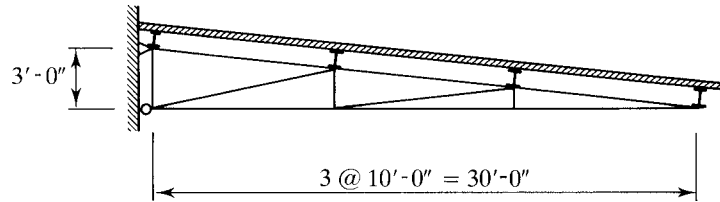

FIGURE P3.8-1
- 3.8-1** Use A992 steel and select a structural tee for the top chord of the welded roof truss shown in Figure P3.8-1. All connections are made with longitudinal plus transverse welds. Assume a connection length of 12 inches. The spacing of trusses in the roof system is 15 feet. Design for the following loads.